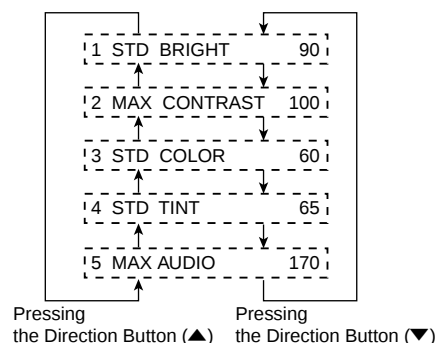

Fig. 3-5
- The items of the SUB MENU changes as shown in Fig. 3-5 by pressing the Direction Button (▼ or ▲).